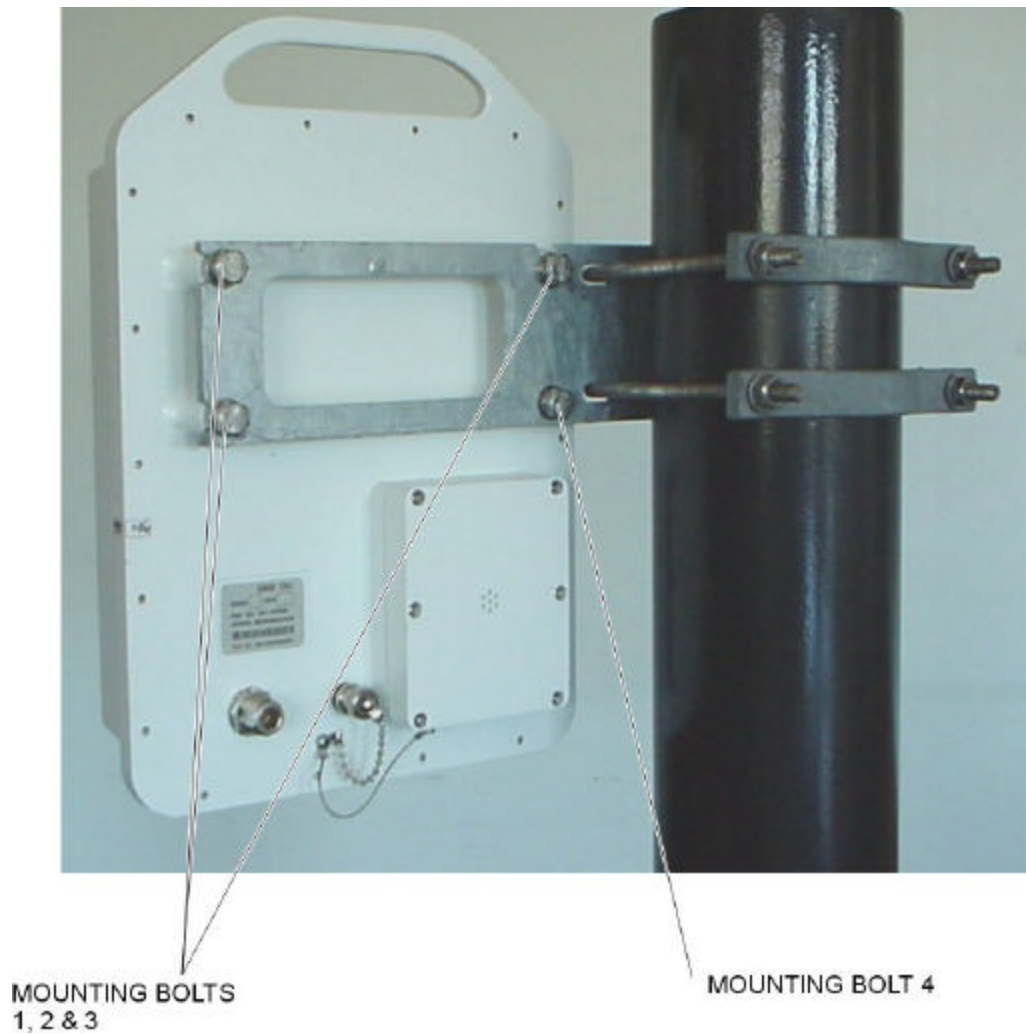

Figure 4-7. RFU Installation (2)
4. Refer to Figure 4-7:
- Loosen Mounting Bolts (1), (2) and (3) on the back of the RFU.
- Remove Mounting Bolt (4).
- Replace Mounting Bolt (4).
- Secure the RFU by tightening Mounting Bolts (1), (2), (3) and (4).